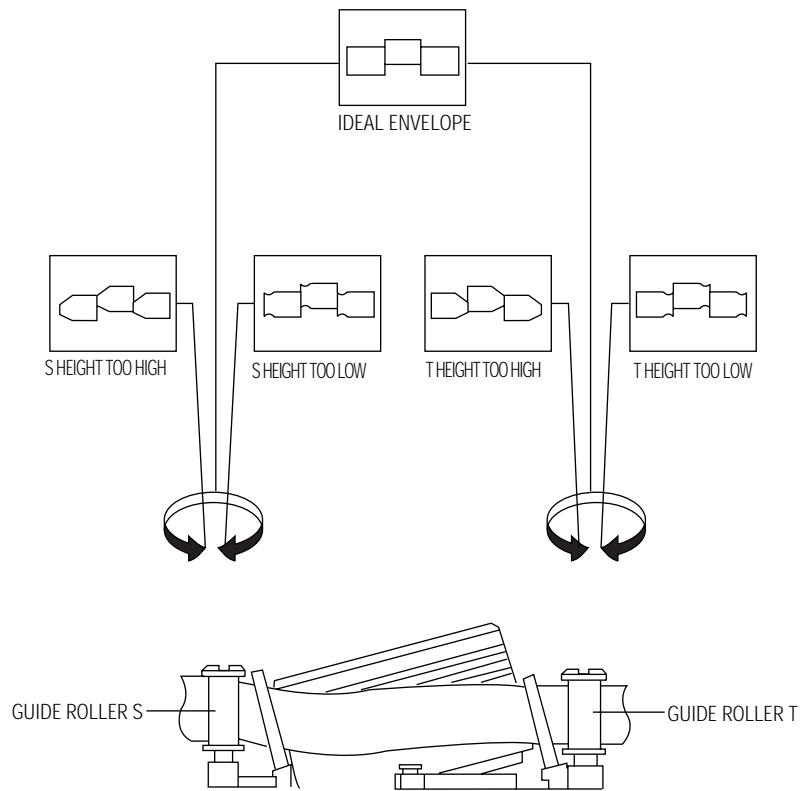

Fig. 6-11 Guide Roller S, T Height Adjustment
- 8) Turn the guide roller heads with a flat head (L-shaped) driver to obtain a flat video RF envelope as shown in Fig. 6-11.